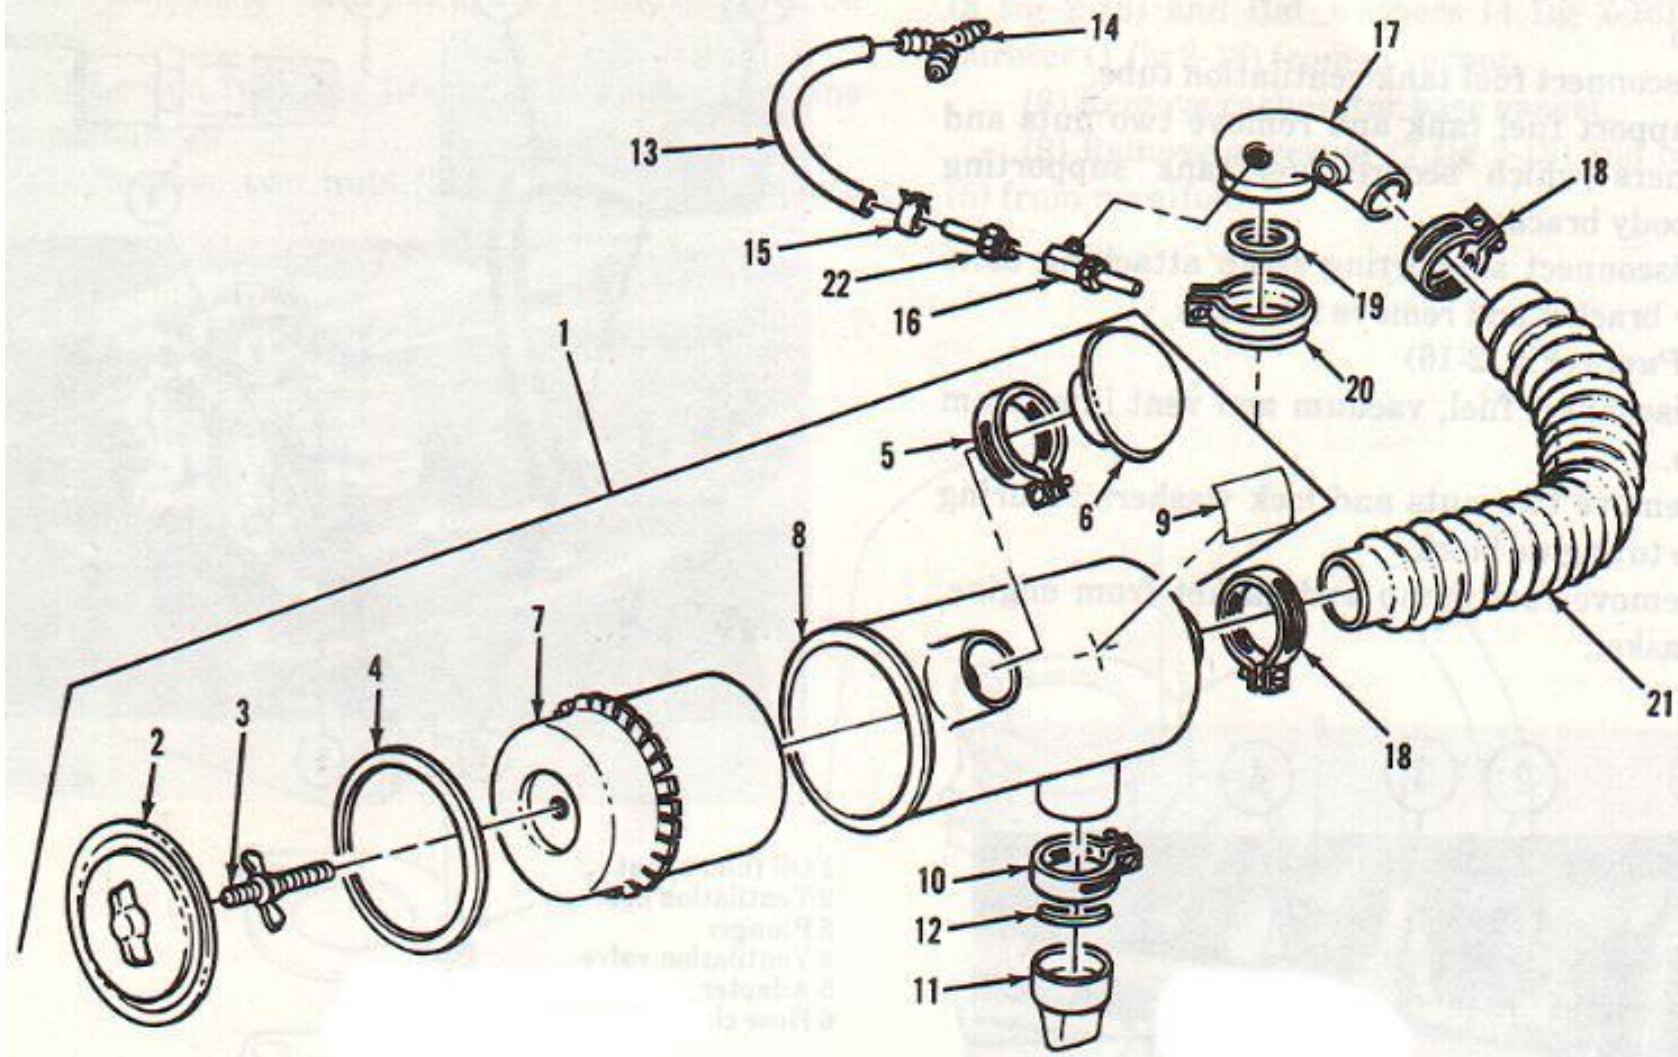
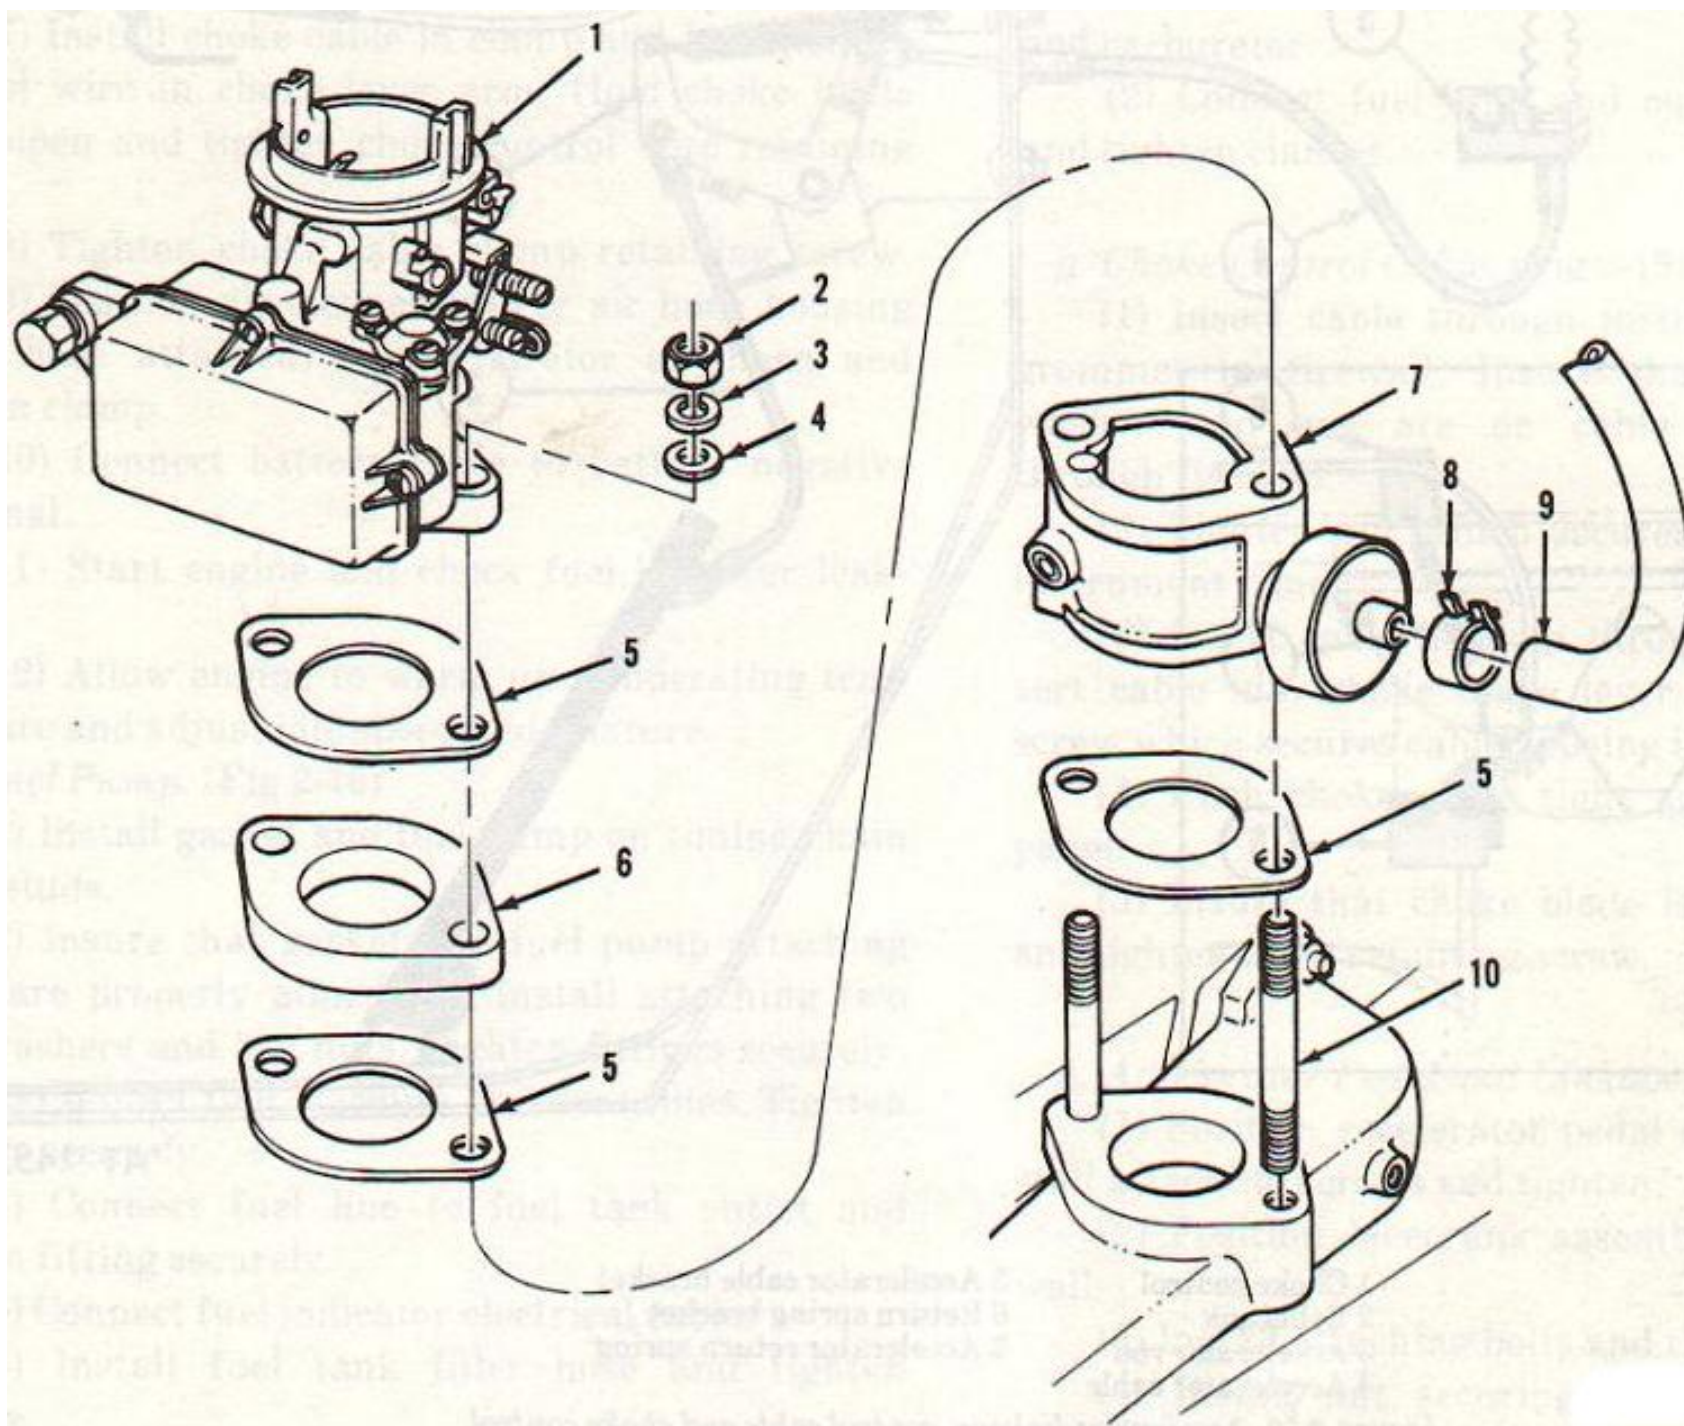

Figure 2-15. Air cleaner (late type).
Figure 2-18. Carburetor and governor removal.
(1) Pull lanyard pin and lower air cleaner assembly.
(2) Loosen cover assembly wing nut and remove cover (2 fig 2-15) and gasket (4 fig 2-15).
(3) Remove bolt assembly (3 fig 2-15).
(4) Remove element (7 fig 2-15).
(5) Inspect element by placing light bulb inside of element, if element has ruptures or pin holes, replace.
(6) Element may be cleaned with compressed air. Direct air inside element moving up and down, while rotating element.
(7) Element may be washed in water. Soak 15 minutes, rinse until water is clear and air dry. Do not use compressed air.
(8) Loosen clamp (5 fig 2-15) and clean precleaner (6 fig 2-15).
- (1) Disconnect battery ground cable from battery negative terminal.
- (2) Place a rag beneath fuel line at rear of carburetor to absorb spillage and disconnect fuel inlet line from carburetor.
- (3) Loosen clamp (20 fig 2-15) which retains air cleaner and/or air horn housing to carburetor air horn and remove air cleaner and/or air horn housing.
- (4) Loosen choke control wire retaining screw on side of carburetor.
- (5) Loosen choke cable clamp retaining screw and pull choke cable through clamp.
- (6) Disengage and remove accelerator linkage return spring on side of carburetor.
- (7) Remove nut which secures accelerator cable to carburetor throttle shaft and disconnect cable from shaft.
- (8) Remove two nuts (2 fig 2-18), lock washers (3 fig 2-18) and flat washers (4 fig 2-18).
- (9) Remove carburetor assembly (1 fig 2-18) and gasket (5) from intake manifold.
- (1) Disconnect vacuum hose (9 fig 2-18) from governor.
- (2) Loosen clamp (20 fig 2-15) and remove air horn (17 fig 2-15) from carburetor.
- (3) Loosen screws attaching choke cable and remove cable.
- (4) Remove accelerator retracting spring.
- (5) Remove throttle linkage by removing nut on linkage.
- (6) Loosen fuel line fitting and remove fuel line from carburetor.
- (7) Remove two nuts (2 fig 2-18), lock washers (3 fig 2-18) and flat washers (4 fig 2-18). Lift carburetor (1 fig 2-18) from governor.
- (8) Remove carburetor base gasket.
- (9) Remove governor (7 fig 2-18) and base gasket (5) from manifold.
a. Governor. (fig 2-18)
- (1) Install governor and gasket on intake manifold studs.
- (2) Install carburetor and gasket on intake manifold studs.
- (3) Install the two lock washers, hex nuts and tighten to 14-18 lbs-ft.